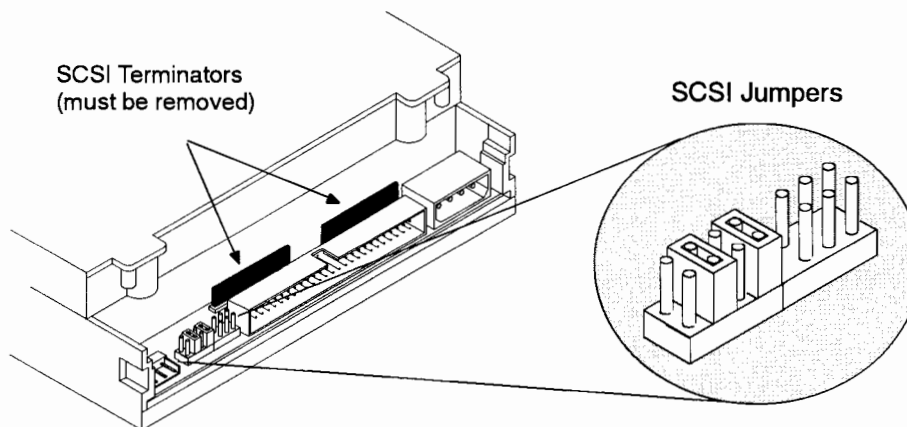

Figure B-15. Location of SCSI ID Jumpers
1. Locate the SCSI ID jumpers on the rear of the CD-ROM drive, as shown in Figure B-15.
2. To change the jumper setting, use needlenose pliers to set the drive's SCSI ID to an address that's not used by another SCSI device. See Figure B-15 for the SCSI ID jumper settings.
3. Use needlenose pliers to remove the SCSI terminators, if still attached to the drive (refer to Figure B-15).